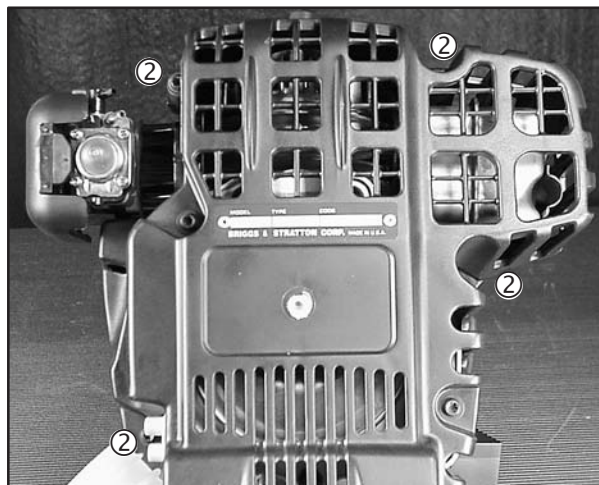

Fig. 5
1. Install 4 screws (2) from cylinder shield side, Fig. 5.